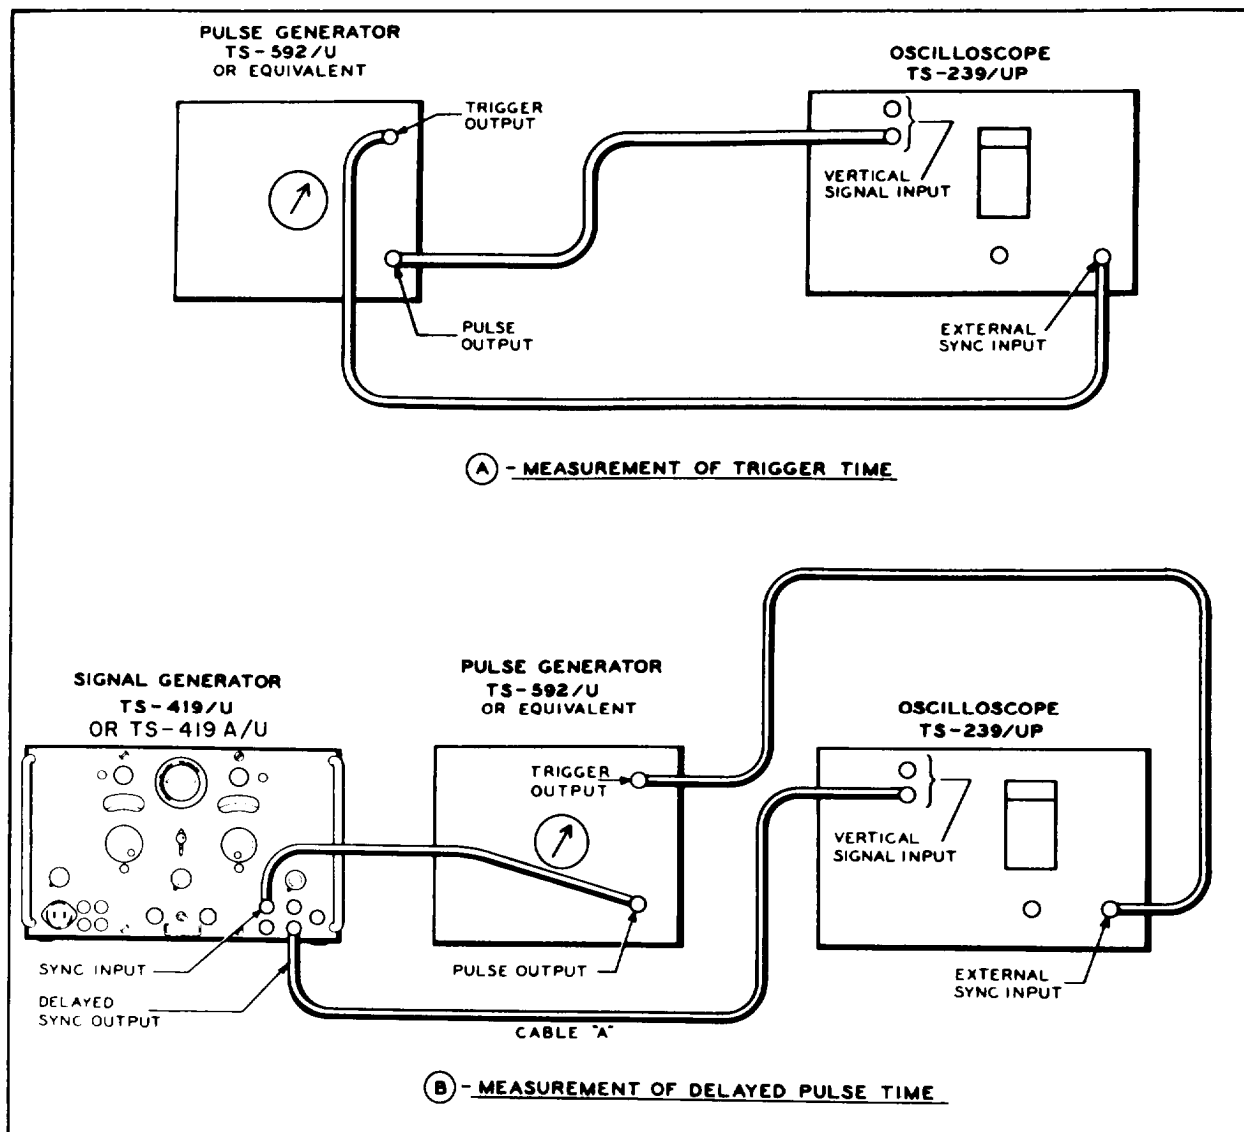

Figure 4-5. Test Connection Diagram for Measurement of Pulse Delay
(1) Connect the required test equipment as shown in figure 4-5.
(2) Turn on the signal generator, Oscilloscope TS-239/UP, and Pulse Generator TS-592/U. Allow a 20-minute warm-up period to insure complete stabilization.
(3) Set the signal generator controls as follows:
(u) Connect the required test equipment, as shown in part A of figure 4-5.
(d) Change circuit connections to external test apparatus to arrangement shown in part B of figure 4-5.
(1) Connect the required test equipment as shown in part B of figure 4-5. Turn the equipment on and